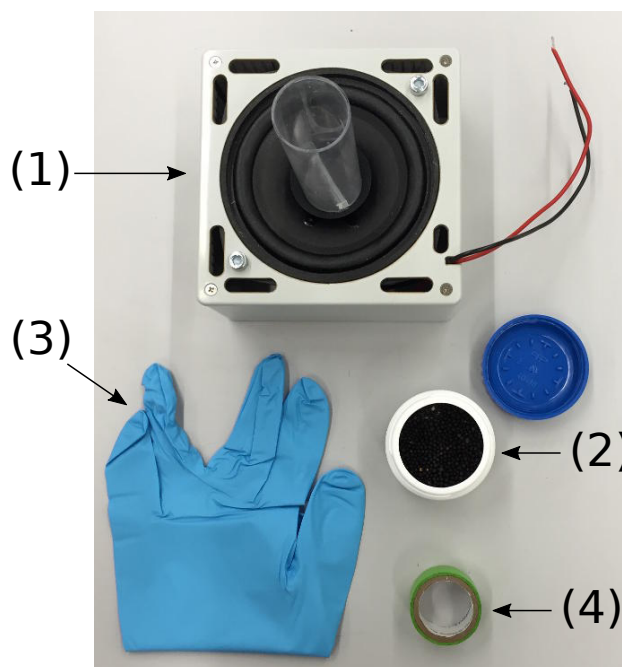

Figure 2: Additional equipment for this experiment.
- The amplitude of the saw-tooth signal can be adjusted using the right potentiometer labeled *speaker amplitude* (4). A DC voltage proportional to the signal amplitude is output on the *speaker amplitude* monitor socket (6) (with respect to the *GND* socket (7)). The numbers refer to the photograph (Figure 2) shown in the general instructions.